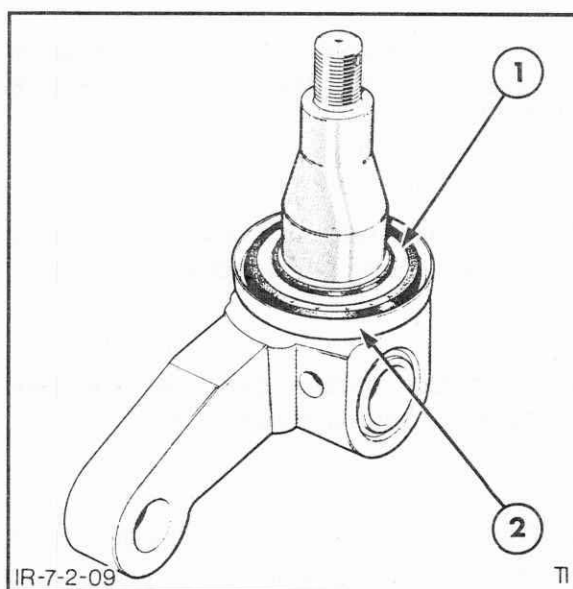

Figure 7-57
2. Using a suitable-sized sleeve, install the mud shield and grease retainer on the wheel spindle. Refer to Figure 7-57.